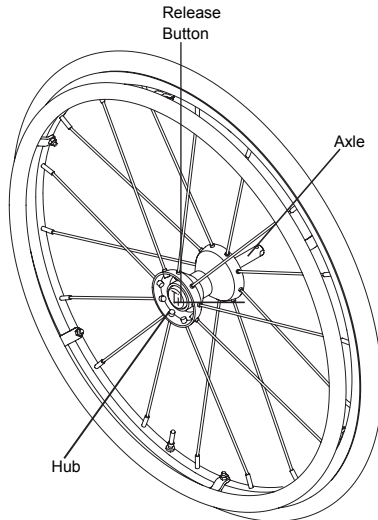

Figure 118
1. Hold wheel securely at the hub through the spokes. See Figure 118.